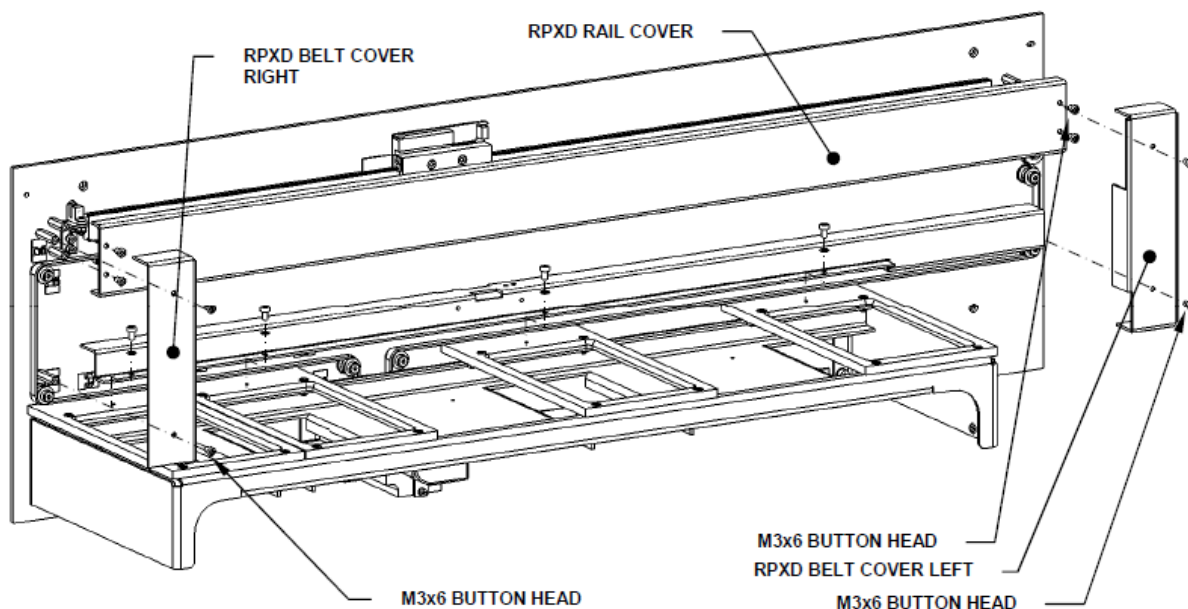

Figure Q-8: Removing the Rail Cover
1. Remove the left and right covers, and then remove the Reagent Pipette X Drive Lower Belt Cover by removing the four M3x6 Socket Cap Head Screws and four M3 Washers (Figure Q-8). When replacing the cover, apply Loctite 222 to the screws.